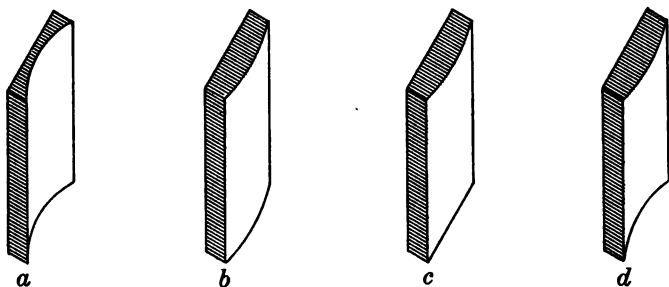

FIGURE 80. — PECULIARLY SHAPED MIRRORS.
4. *Peculiarly Shaped Mirrors.* There are many peculiarly shaped mirrors, such as are found in "hilarity halls," etc. Figure 80 shows a few of these. Due to the peculiar shapes, the images are distorted and afford amusement for the patrons.